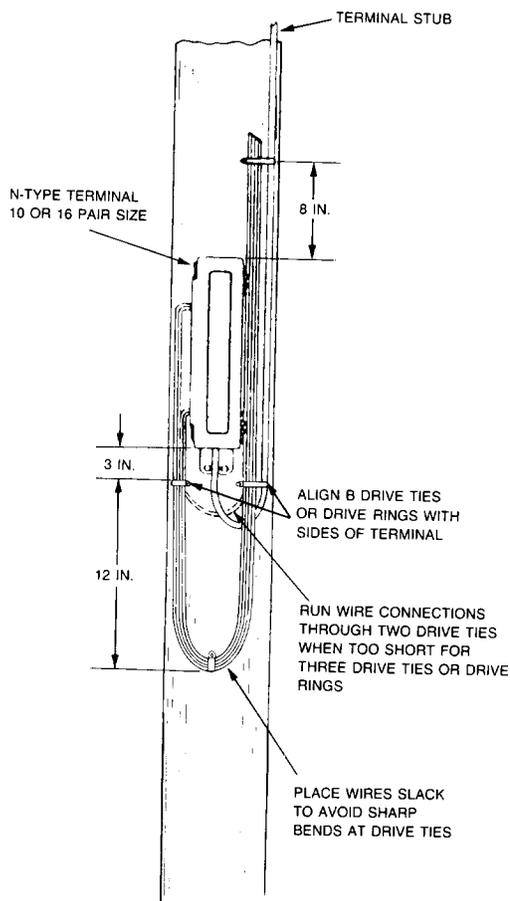

Fig. 13 - Running Drop Wire to 10 or 16 Pair N-Type Cable Terminal Mounted on Pole
4.06 Refer to Fig. 13 and 14 for ~~typical arrangements of drop wires at N-type~~
- 4.06 Refer to Fig. 13 and 14 for typical arrangements of drop wires at N-type terminals which are mounted on poles.